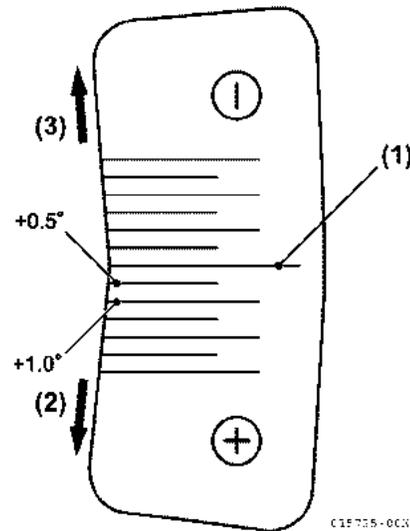

Figure 6-46
- If the difference between the timing index numbers is a positive (+) number, the fuel injection pump mounting position must be advanced (**Figure 6-46, (2)**) (rotated away from the engine) as compared to the "standard mark" (**Figure 6-46, (1)**) by the calculated positive (+) amount; adjust the fuel injection pump to the calculated value.
- If the difference between the timing index numbers is a negative (-) number, the replacement injection pump must be retarded (**Figure 6-46, (3)**) (rotated toward the engine) by the calculated negative (-) amount.
The above calculated difference indicates that the replacement fuel injection pump is to be installed at +0.5° (advanced) from the "standard mark" (**Figure 6-46, (1)**) on the timing sticker.